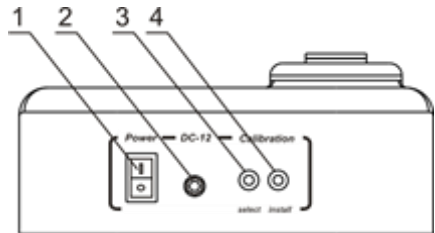

Figure 2.
- 5.1. Connect the external power supply to electric circuit. Switch on the unit using the **Power** switch (fig. 2/1) on the rear panel.
- 6.4. Connect the external power supply to electric circuit. Switch on the unit using the **Power** switch (fig. 2/1) on the rear panel.
- 6.5. Press the **Select** button (fig. 2/3) on the rear of the unit.
- 6.6.1. **Empty socket.** Display shows **---** indication. Press **Install** button (fig. 2/4) to save empty socket value. Display shows next required calibration value.